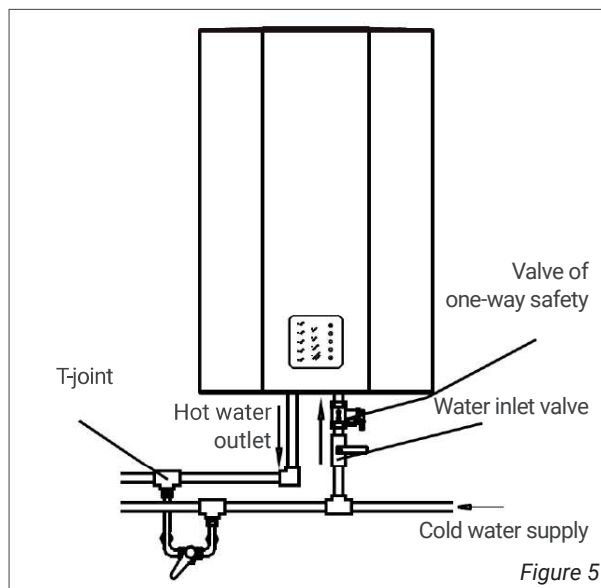

Figure 5
9. After confirming that the rated values of the electricity meters, cables, switches, sockets, and fuses of the power supply system meet the energy Consumption requirements of this product, connect a properly positioned plug to supply power to the electric water heater (as shown in Figure 5). The installation height of the Current outlet from the floor must not be less than 1.8 m.